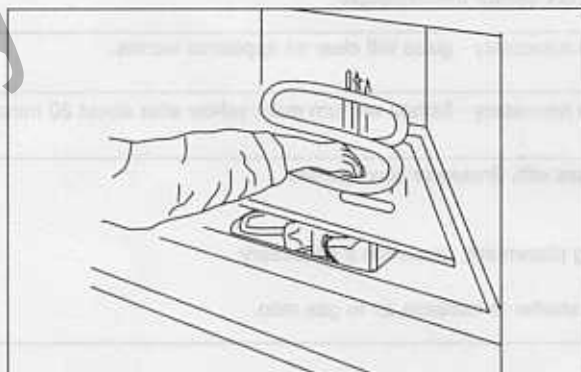

Figure 33
Step 7 - On the firebox bottom in the valve area are four (4) wing bolts. Loosen and remove these bolts and place them in the bottom of the fireplace.
Step 8 - Carefully grasp the hearth pan inside the firebox, as shown in Figure 33, using an air slot (one of the oblong holes) as a hand hold. Slowly lift the entire hearth pan and valve assembly straight up, making sure that no metal edges or wires are caught in the fireplace.